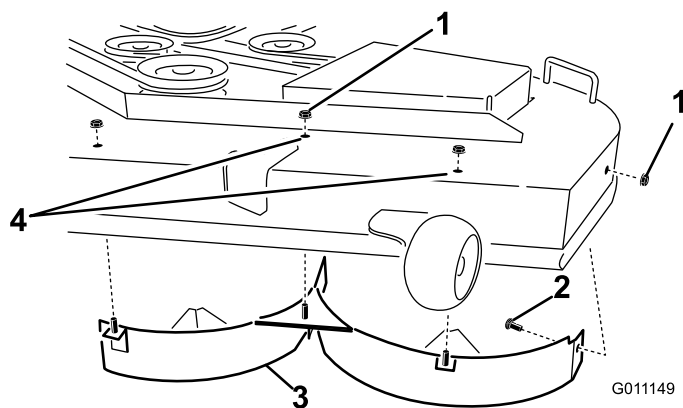

Figure 32
6. Remove the three lock nuts (5/16 inch) secured to the welded posts of the left baffle on the top of the mower deck at the center, left of center and left positions (Figure 32). Remove the carriage bolt and lock nut on the side wall of the mower deck securing the left baffle to the deck.
7. Remove the left baffle from the mower deck as shown in Figure 32.
8. Locate the two bolts and lock nuts in loose parts. Install these fasteners into the holes shown in Figure 32 on the mower deck to prevent flying debris. Install the bolt up, through the underside of the deck and use a lock nut to secure from the topside.